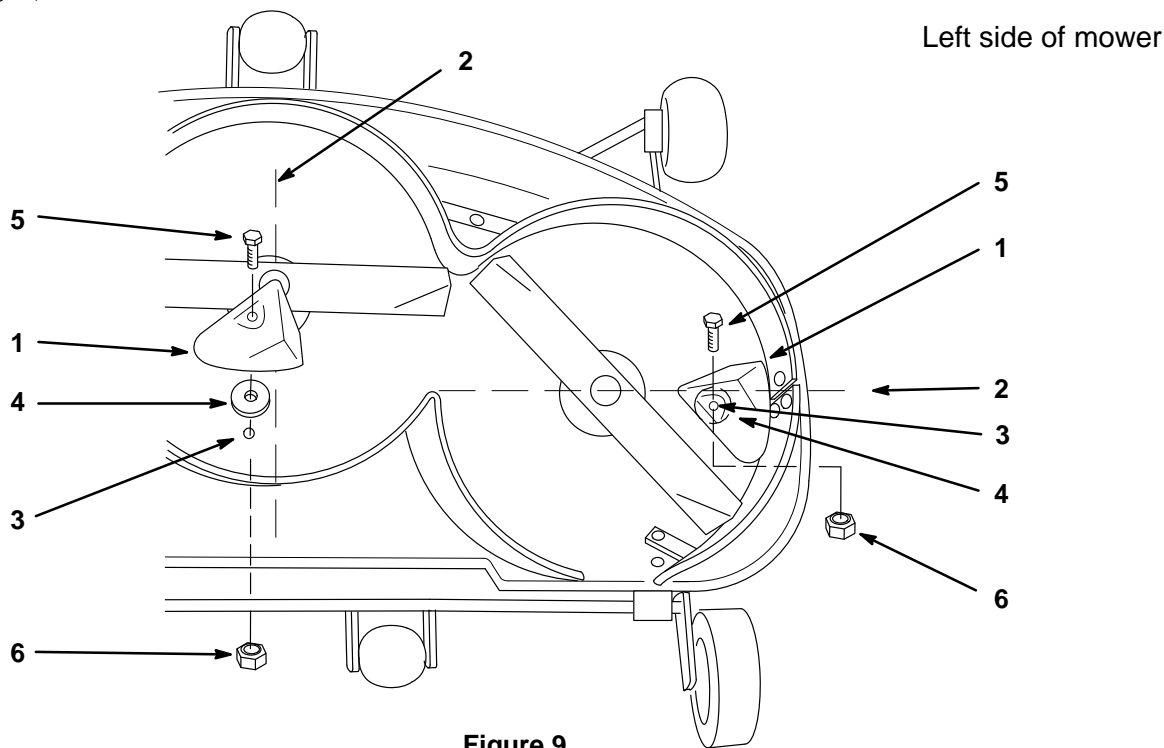

Figure 9
6. Place kickers in center and left chambers so points align with spindle center lines (Fig. 9).
7. Hold kickers tight against deck baffle and mark hole locations (Fig. 9).
8. Remove kickers and drill (2) 11/32" holes in deck (Fig. 9).
9. Place kickers with 3/8–16 x 1" (26 mm) bolt inside mower and spacer between kicker and mower. Secure with 3/8" lock nut on top of mower (Fig. 9).